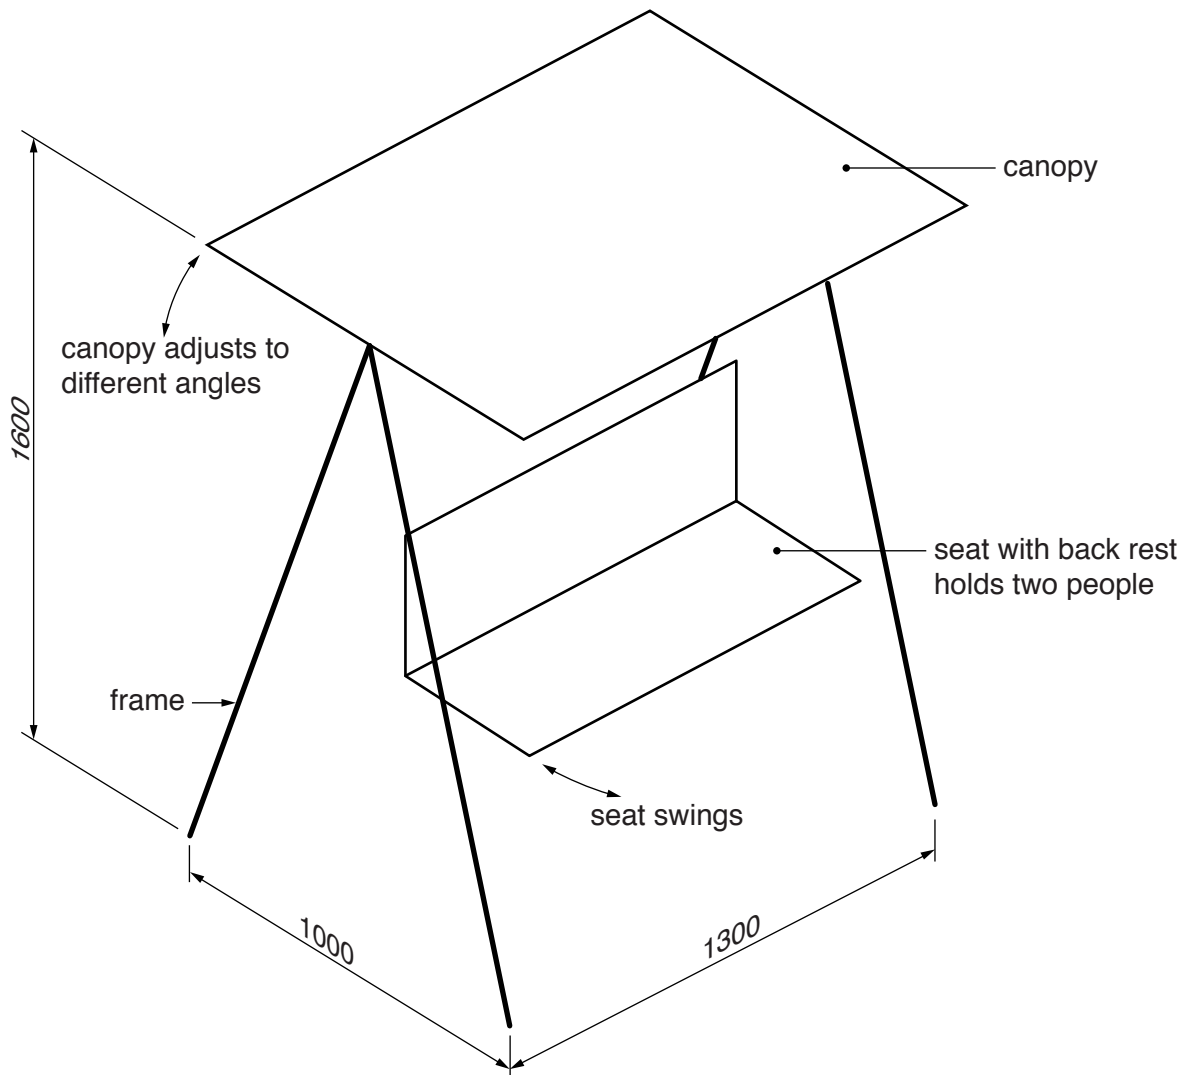

Fig. 9
- 9 Fig. 9 shows an incomplete idea for a garden swing seat to hold two people.